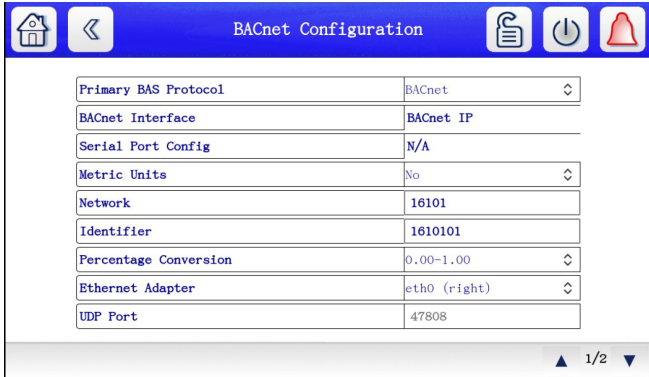

Fig. 15 — Typical BACnet IP Configuration Screen (BACnet IP)
- From the Controller Config screen, press the BACnet configuration icon (🏠) to go to the BACnet Configuration screen. See Fig. 15 for BACnet configuration screen layout.